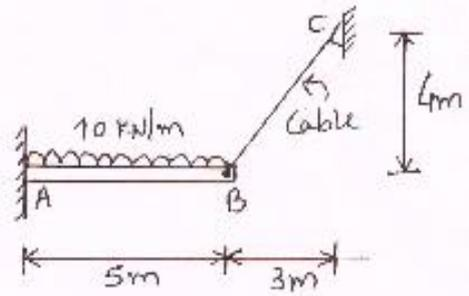

Figure 2
Q.3 Analyse a composite structure shown in Figure 2 using stiffness method **14**